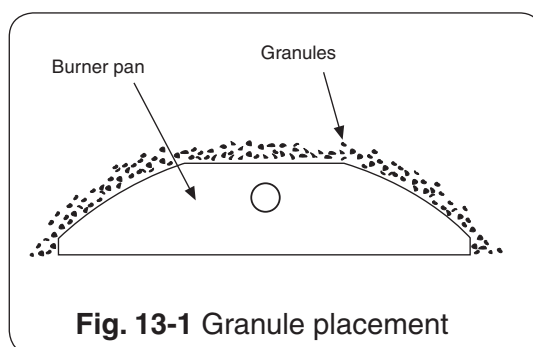

Fig. 13-1 Granule placement
1. Fill the burner pan completely with the granules*. See Fig. 13-1. **Avoid spilling the granules on the pilot kit.**